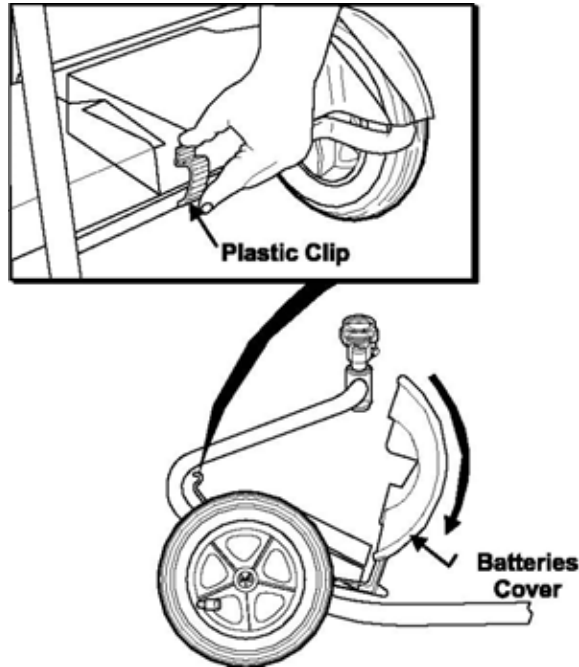

Figure 16.
- .b. Open **Batteries Cover** - (See Fig. 16).